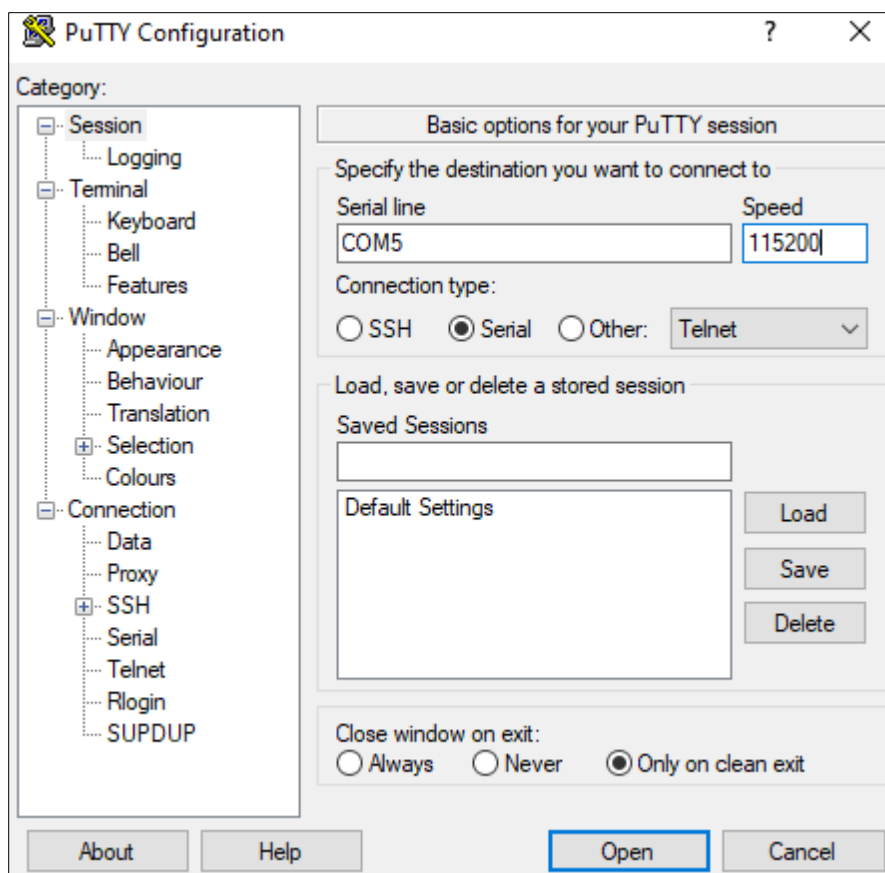

Figure 9.1. PuTTY Configuration
5. Connect to the higher number of the two COM ports. The baud rate is 115200 (Figure 9.1).